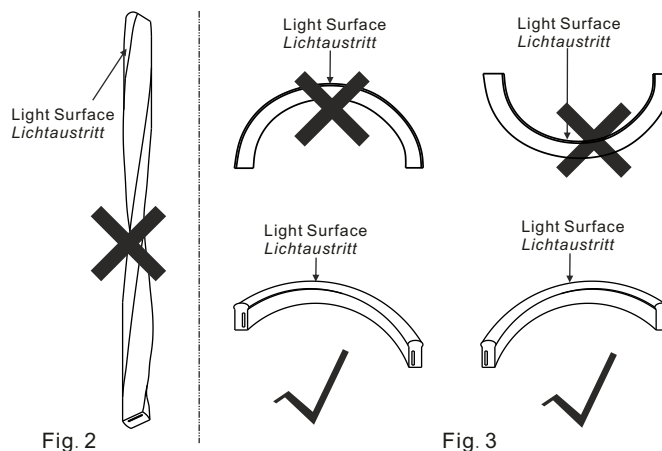

Fig. 4 Hang suspended installation as the picture illustrated is forbidden.
10. Do not hang this flex light in sky as Fig.4. / *Nicht in der Luft aufhängen wie in Fig. 4*